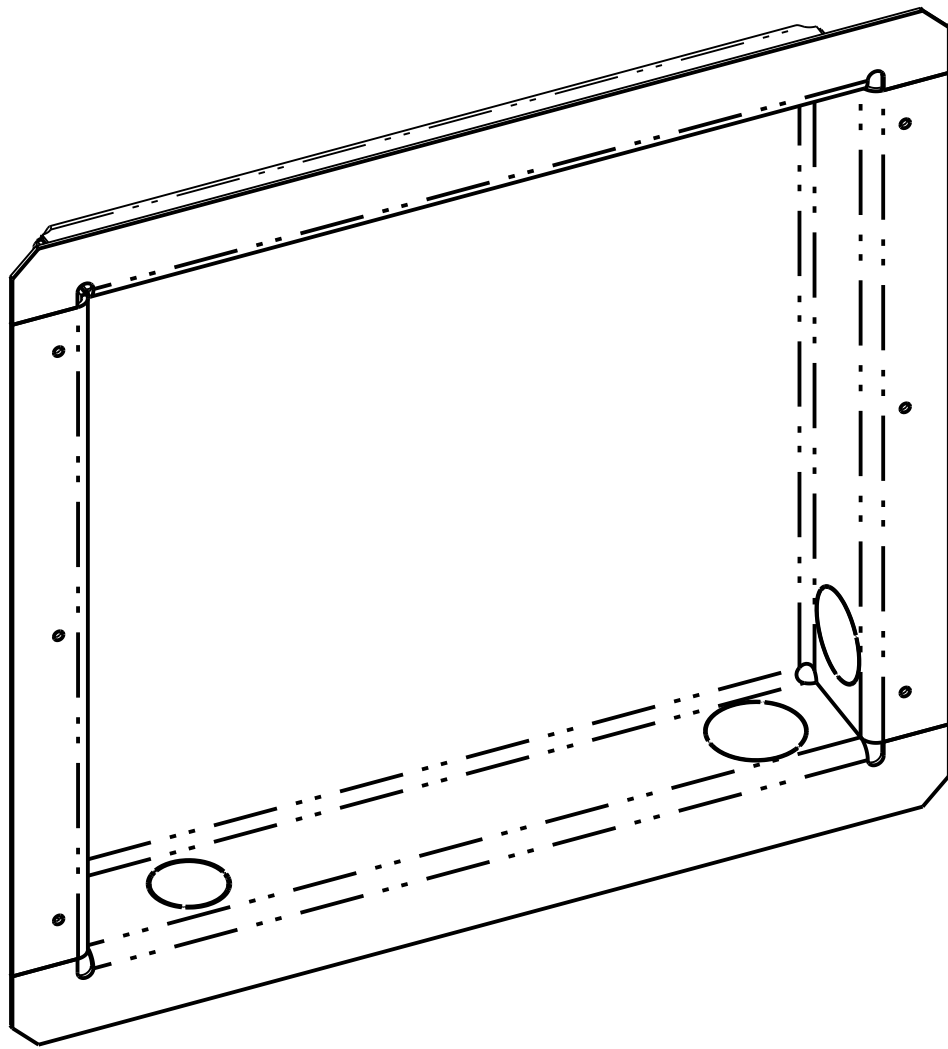

FIGURE 3 - REAR PROTECTIVE COVER
- 1.0 PREPARATION; READ THIS ENTIRE NOTE BEFORE PROCEEDING - THE APX REMOTE PANEL CAN BE INSTALLED EITHER INSIDE OR OUTSIDE THE TRAILER. SELECT LOCATION FOR MOUNTING AND PREPARE THE SURFACE PER THE DIMENSIONS ABOVE. FOR TRAILER MANUFACTURER PREPARATION, FOR THE FLUSH MOUNT TYPE THERE IS ALSO A REAR PROTECTIVE COVER AVAILABLE FOR INSTALLATION BEFORE THE REMOTE PANEL IS INSTALLED (SEE FIGURE 3).